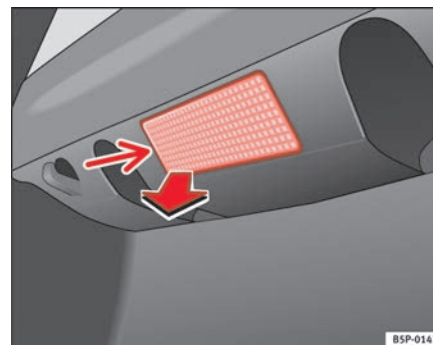

Fig. 191 Luggage compartment light
- Remove the bulb by pressing on the inside edge of this -arrow- using the flat side of a screwdriver ⇒ fig. 191. ▶